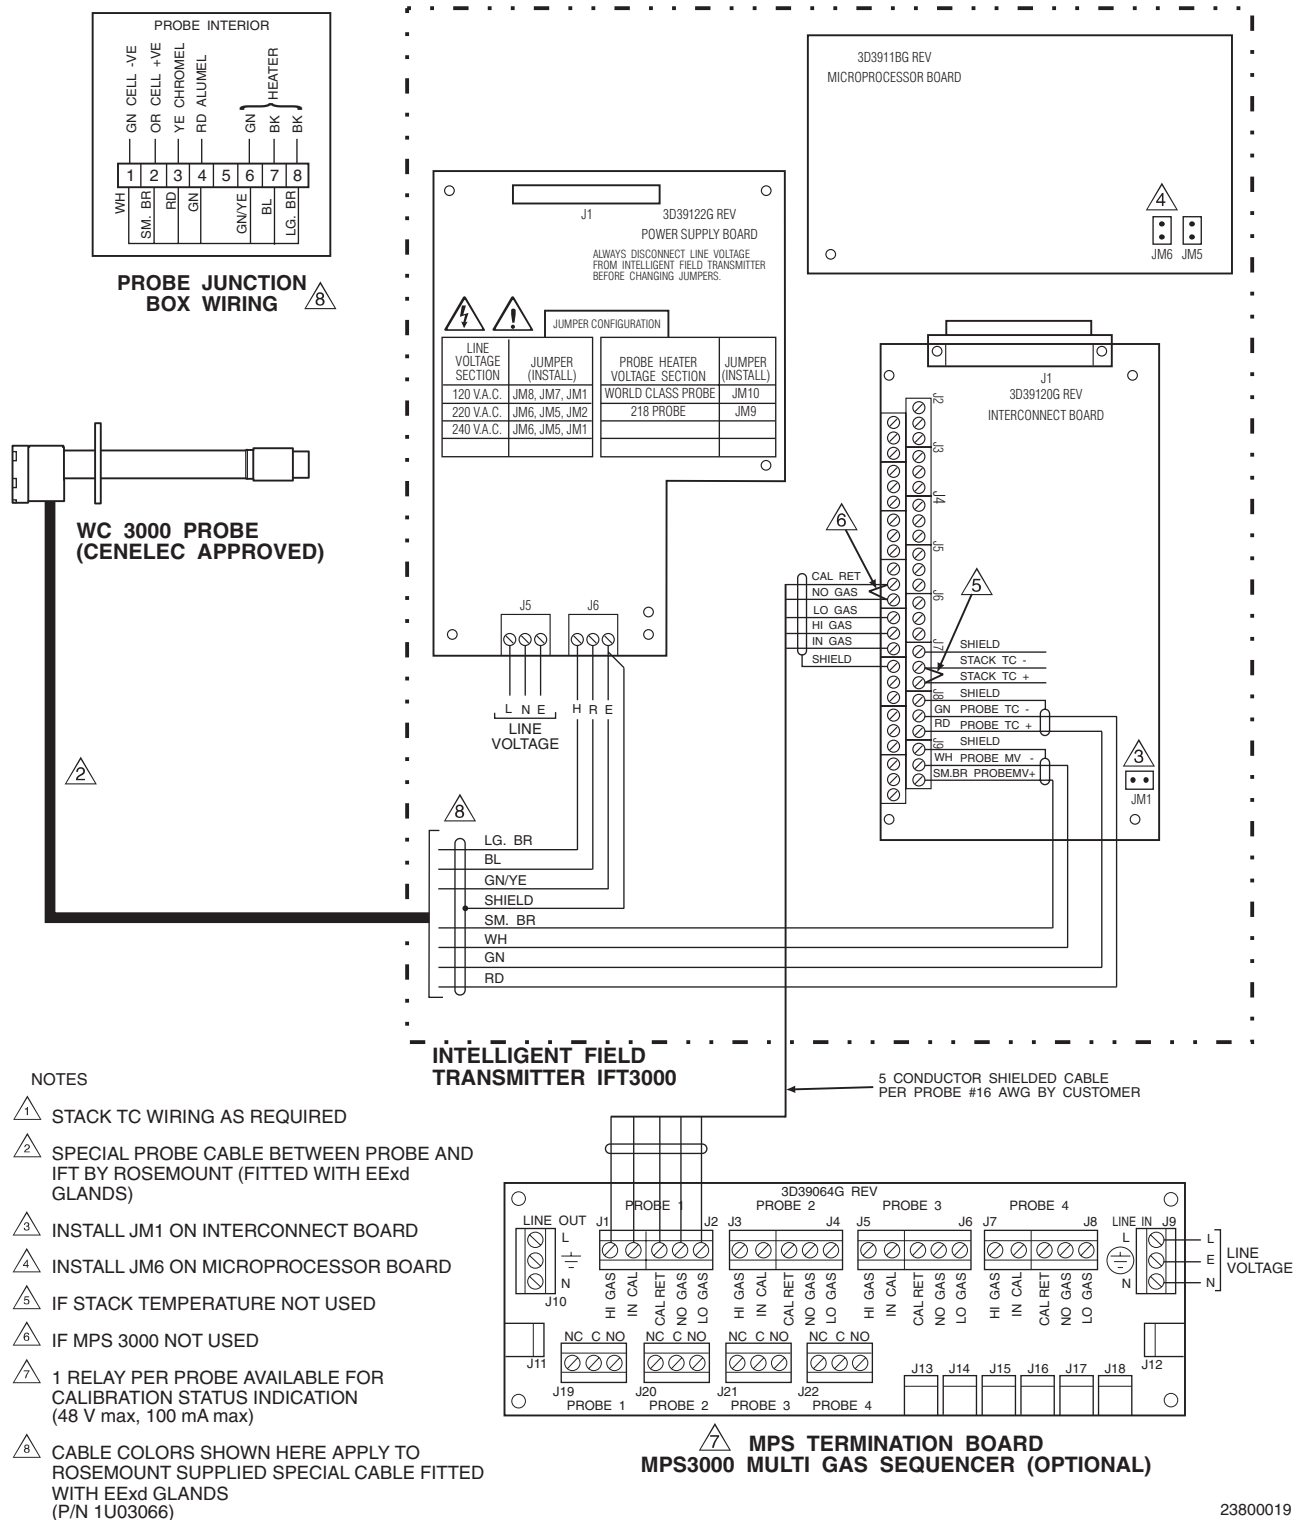

Figure 2-7. Wiring Layout for IFT 3000 (CENELEC approved) System without HPS
- The IFT can be configured to connect directly to a probe or to an optional HPS. The electrical connections for a non-HPS equipped system should be made as described in the electrical installation diagram, Figure 2-7.
must be installed on the interconnect board. Remove wire jumper if MPS is installed in the system. Refer to Figure 2-7, note 6.